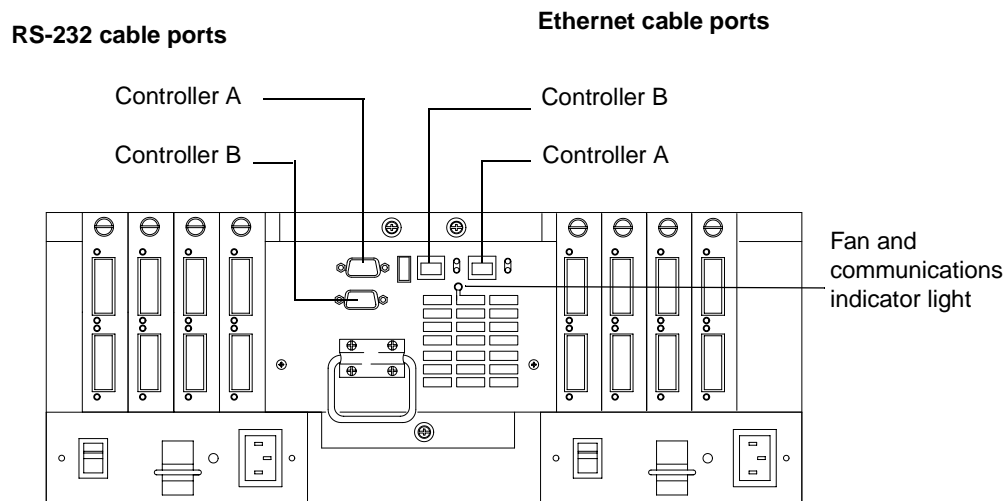

Figure 24. Fan and communications module ports and indicator light
- 6 Check the fan and communications indicator light (see Figure 24 on page 43).